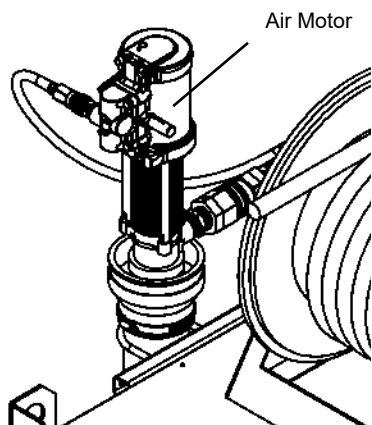

Figure 8
1. Place the transfer pump in first drum of coating to be sprayed. Turn the transfer pump air regulator until the air motor begins to engage. See Fig 8